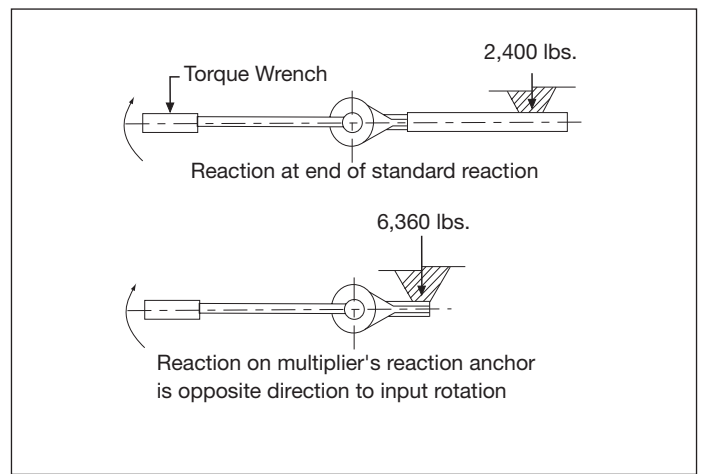
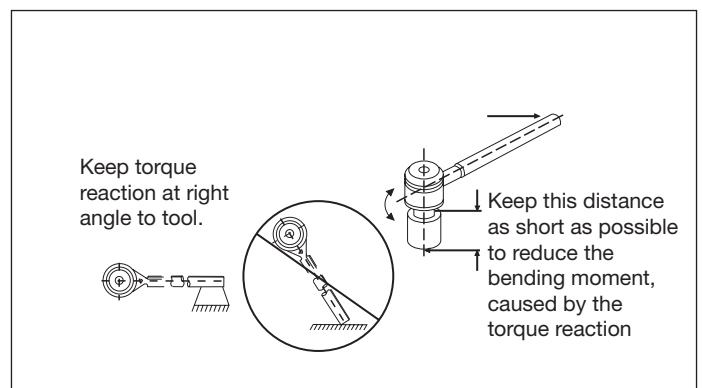

Fig. 5, Reaction forces increase closer to the multiplier
Fig. 6, Minimize bending moments created by the torque multiplier's reaction
5. Increase Torque Multiplier life. Maintain the shortest possible couple distance between the Torque Multiplier Output (Fig. 6) and the fastener being addressed. Maintain the longest distance possible between the Torque Multiplier and reaction point as possible (Fig. 5).
reference section 4.0 Specification Tables. Output torque accuracy requires an accurate torque wrench in series with the torque multiplier. Apply torque with torque wrench until desired input torque is achieved (Fig. 5).